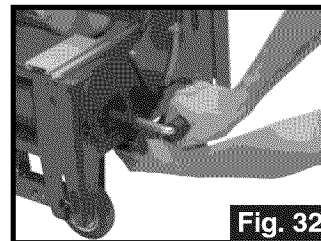
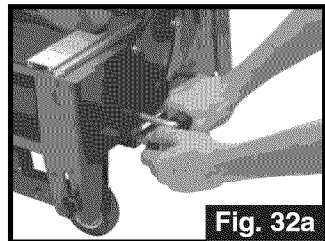

Fig. 32
Fig. 32a
- Your tile wet saw has been equipped with a set of wheels for easy transporting. They are to be used when the legs of the saw table are in the closed, or folded up position. To use wheels, simply pull out and down on the black handle located on the wheels' axle (Fig. 32). When not using the wheels, and to set up the saw in a new location, retract the wheels by pulling out the knob located on the table base directly above the wheels (Fig. 32a).